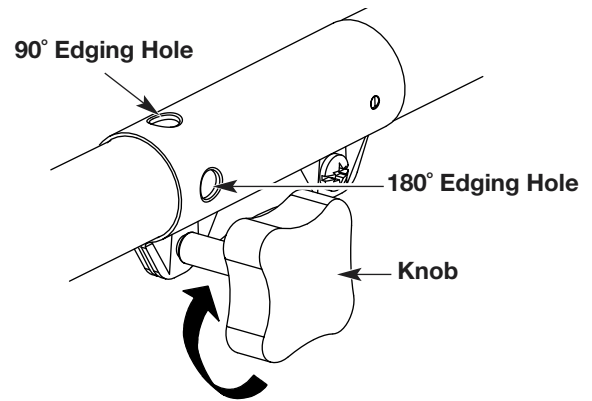

Fig. 10
3. Turn the knob clockwise to tighten (Fig. 10).
For edging when using the line head cutting attachment with Click-Link® models, lock the release button of the cutting attachment into the **90° edging hole** or the **180° edging hole** (Fig. 10).